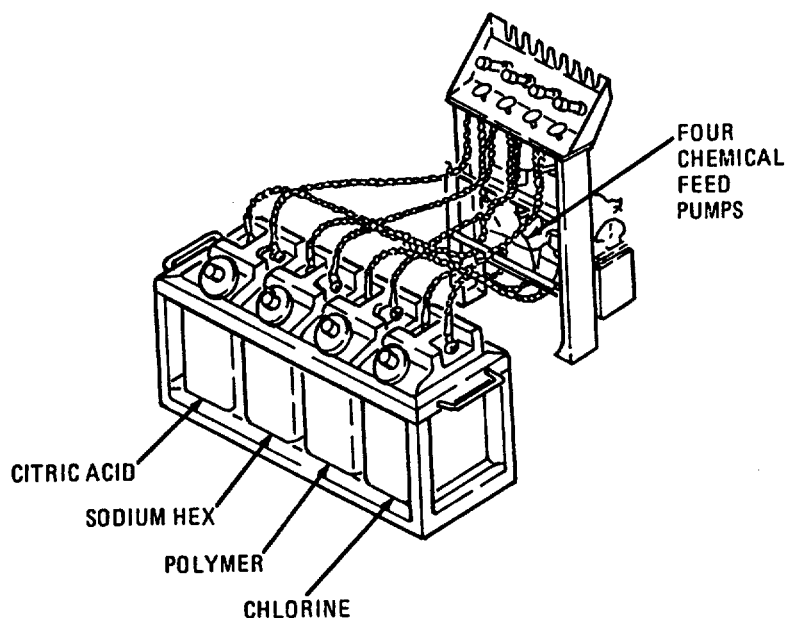

FIGURE 2-35 TUBES ATTACHED TO CHEMICAL FEED PUMPS
(19) Connect chemical feed tubes to chemical feed containers as follows (see figure 2-35):